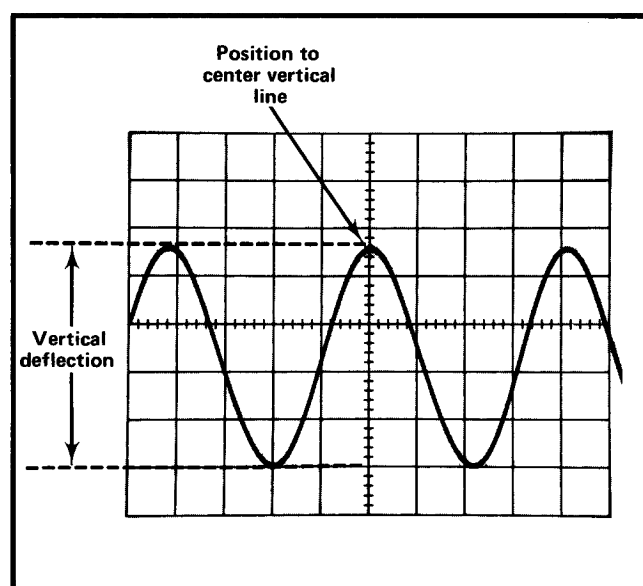

Fig. 2-2. Measuring the Peak-to-Peak Voltage of a waveform.
6. Turn the 7A12 POSITION control so the lower portion of the waveform coincides with one of the graticule lines below the center horizontal line, and the top of the waveform is within the viewing area. With the time base Position control, move the display so one of the upper peaks lies near the center vertical line (see Fig. 2-2).
**EXAMPLE:** Assume that the peak-to-peak vertical deflection is 4.5 divisions (see Fig. 2-2) using a 10X attenuator probe and the VOLTS/DIV switch is set to 1 V.